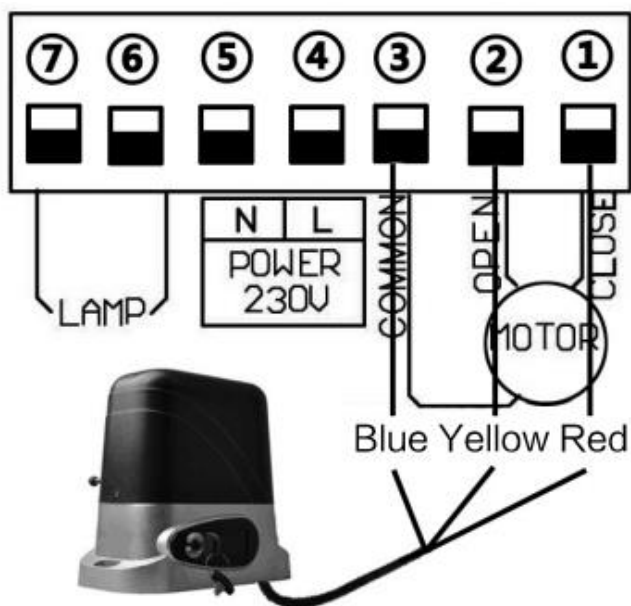

Fig 7
- 6.2.1. Install the motor on the right of gate. (Please see Fig 7)